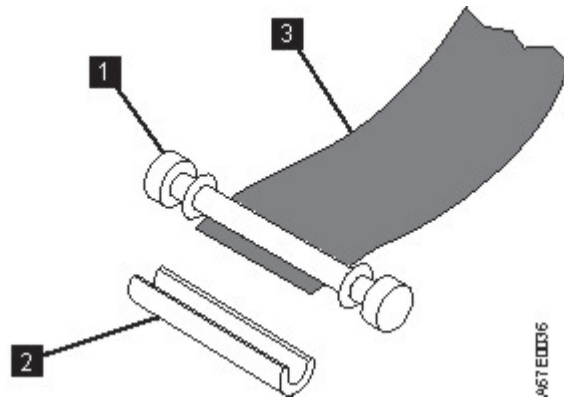

Figure 101. Removing the C-clip from the leader pin. Use your fingers to push the C-clip from the leader pin.
5. On the leader pin (**1** in Figure 101), locate the open side of the C-clip **2** . The C-clip is a small black part that secures the tape **3** to the pin.